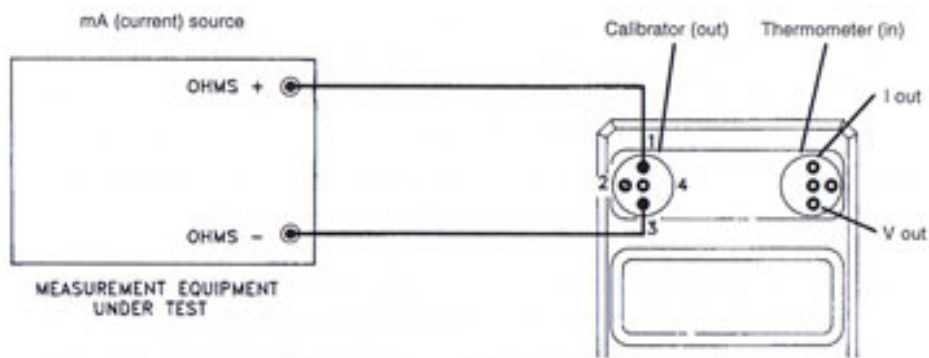

Figure 8. 2-Wire Resistance Simulation
1. Connect measurement equipment under test (eg. RTD thermometer, ohmmeter, etc.) to the instrument as shown in Figures 8, 9, or 10.